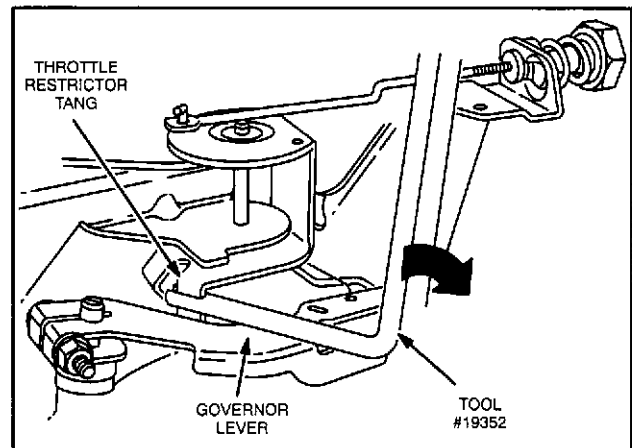

Fig. 17 - Adjusting Throttle Restrictor Tang
2. With engine running at governed idle RPM, use tang bender, Tool #19352, and bend throttle restrictor tang so that tang just contacts governor lever, Fig. 17.